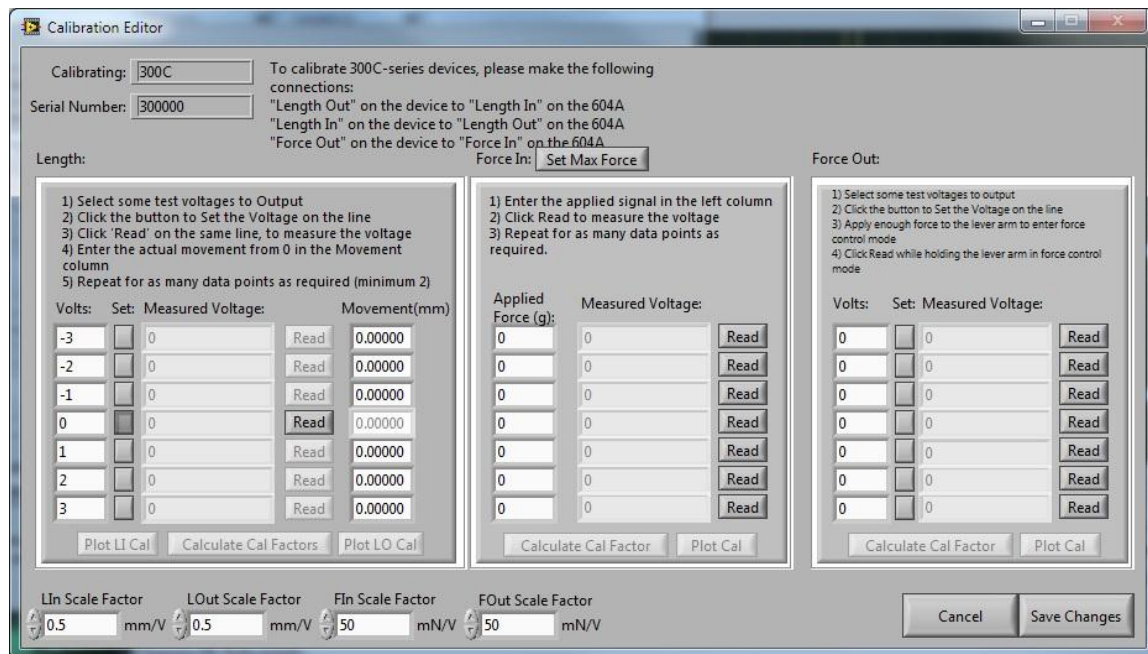

Figure 6: Calibration Editor Shown Calibrating a 300C
The leftmost panel on the calibration window, see Figure 6, is used to calibrate Length In and Length Out. The text entry boxes in the 'Volts' column are used to set the output voltage to levels which are close to the values we might expect to see in normal use. It is a best practice to set the calibration voltages to be equally spaced throughout the anticipated travel of the instrument, however this is not imperative. Note: one of the calibration output voltages MUST be set to zero (0) volts.